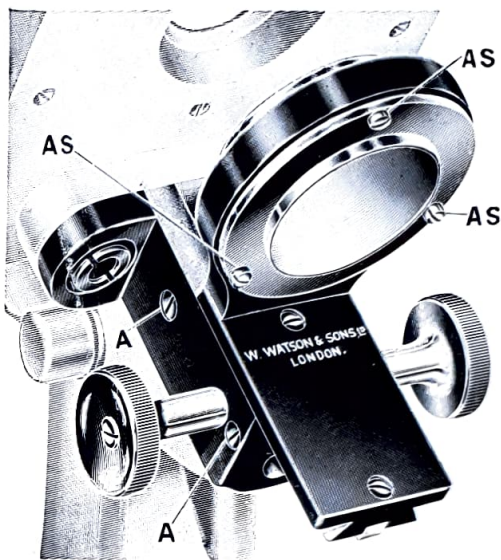

FIG. 9.
2. The Simple Substage (as illustrated, Fig. 9, page 41). This consists of a solid casting with tube to carry the condenser in sleeve pattern mount with iris diaphragm. A certain amount of latitude is given to the sleeve fitting so that at any subsequent date, if after rough handling in the laboratory it is found that the condenser is no longer central, necessary centring can be carried out by releasing the screws AS. This substage is provided with rackwork focussing. The adjusting screws to the dovetailed fitting are shown at A.